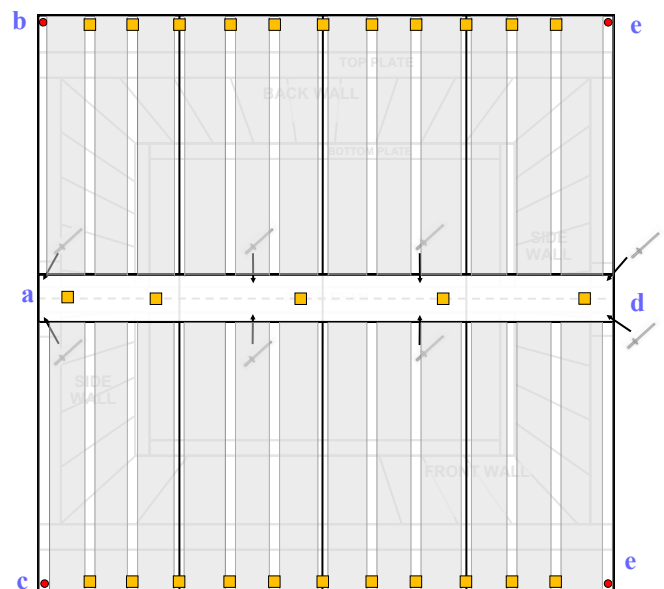

fig.2
- Rivet the Ridge Flashing to the centre of the roof using 8 x rivets as shown (fig.2).